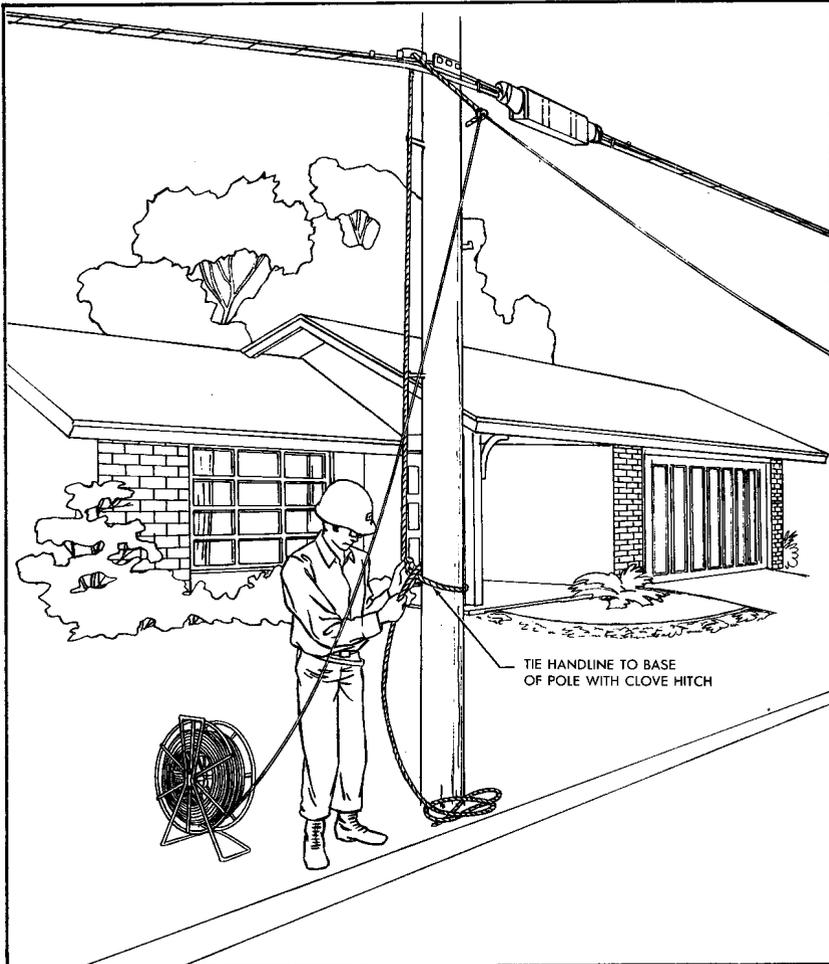

FIGURE 5. Drop Wire Raised to Approximate Height
h. After the drop wire has been raised to the required height, lash the handline with a clove hitch near the base of the pole or at a span clamp to the lower rungs of the ladder. See Figure 5.